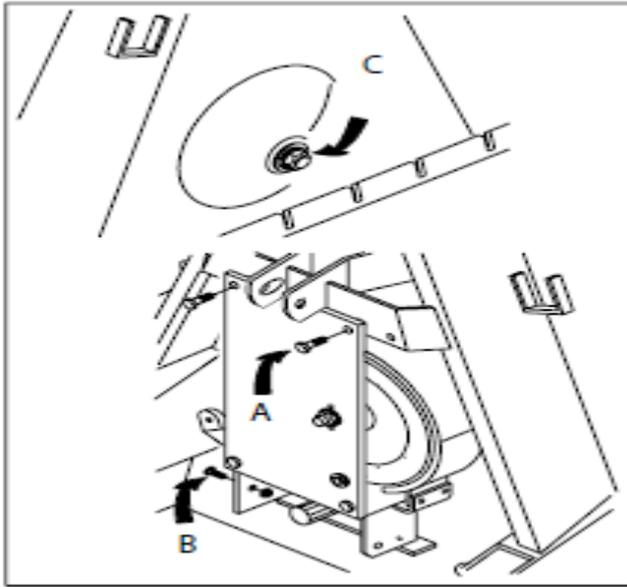

Fig. 19.
3. Remove the fastening bolts (fig. 19 pos. B) beside the drive shaft. Socket size 24 mm (15/16”).
4. Remove the two bolts (fig. 19 pos. A) at the upper edge of the cover plate. Socket size 24 mm (15/16").
5. Remove the drum axle nut (fig. 19 pos. C) and the washer. Socket size 36 mm (1 7/16")